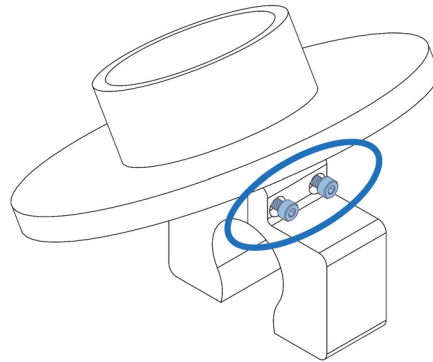

Figure 3 - Tape Jig Screws
1. Obtain the Tape Jig and loosen its screws using a 4 mm hexagonal wrench. Refer to **Figure 3**.